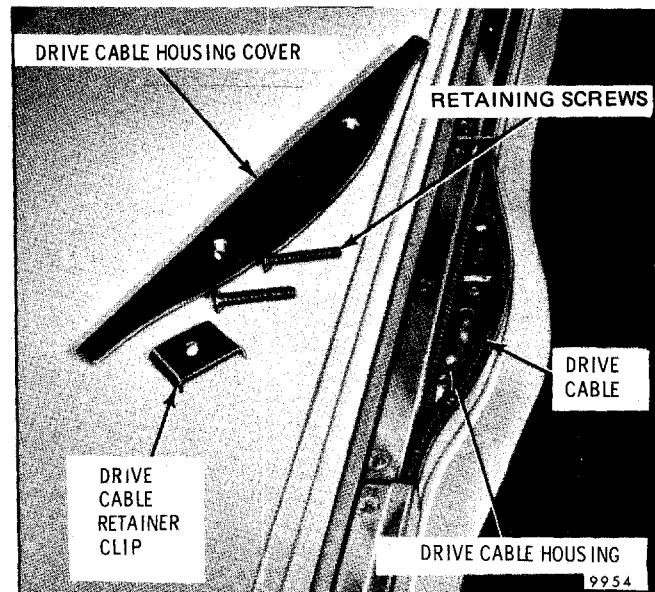

Fig. 8-94-Removing Drive Cable Retaining Clip - E and K Styles
7. Remove drive cable retainer clip from drive cable gear mechanism (Fig. 8-94).